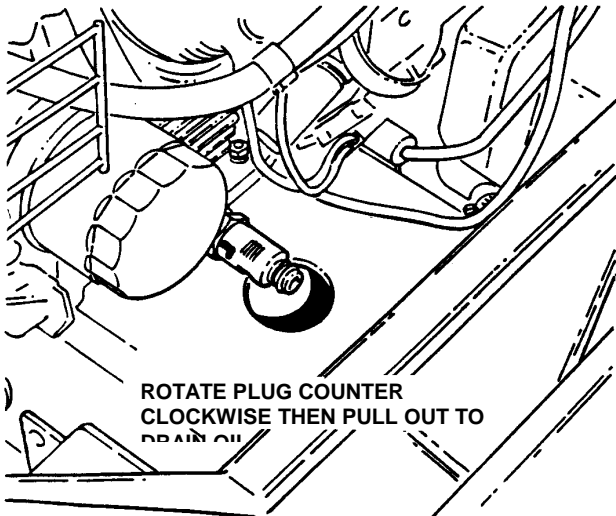

FIGURE 4.1
- b. Rotate counter clockwise and pull out to open the drain plug. See Figure 4.1.
- c. After all the oil has drained, close the drain by pushing in and rotating clockwise to close. Wipe up any oil that may have spilled. Dispose of drained oil properly. See Figure 4.1.